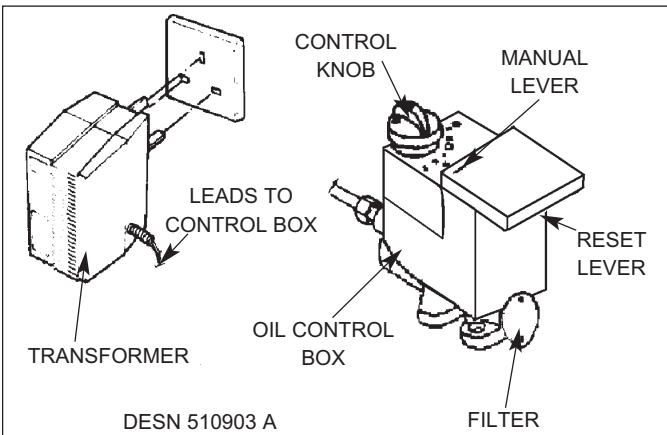

Fig. 4 Oil Control Box and Transformer
Without an electric supply to the control box, the burner will operate continuously on 'Low Fire'. In the event of a power failure, the burner can be switched to 'High Fire' by simply moving the manual high fire lever on the top of the control box Fig. 4 from **RIGHT** to **LEFT** and engaging it back in the slot in the cover.
3. Lift up the reset lever on the oil control box Fig. 4. until it clicks.